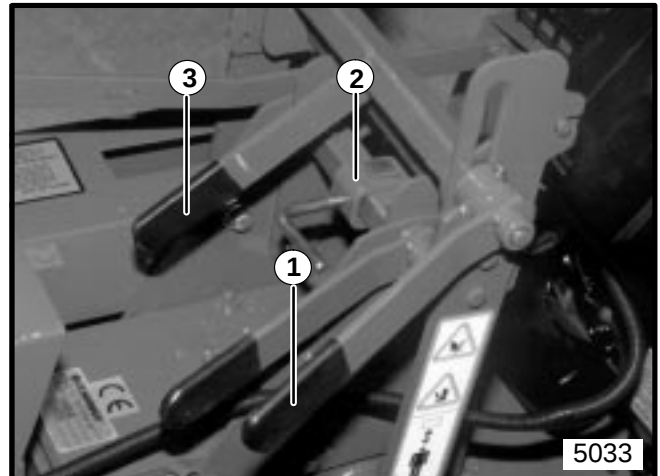

FIGURE 10
1. To move unit without running engine, the drive shifter handle should be located in "N" (neutral position). See Figure 10.
1. Loosen depth stop lever and adjust depth gauge to desired setting. Loosen depth control lever and lower depth control until it rests on depth gauge. Tighten depth stop and depth control levers. See Figure 10.